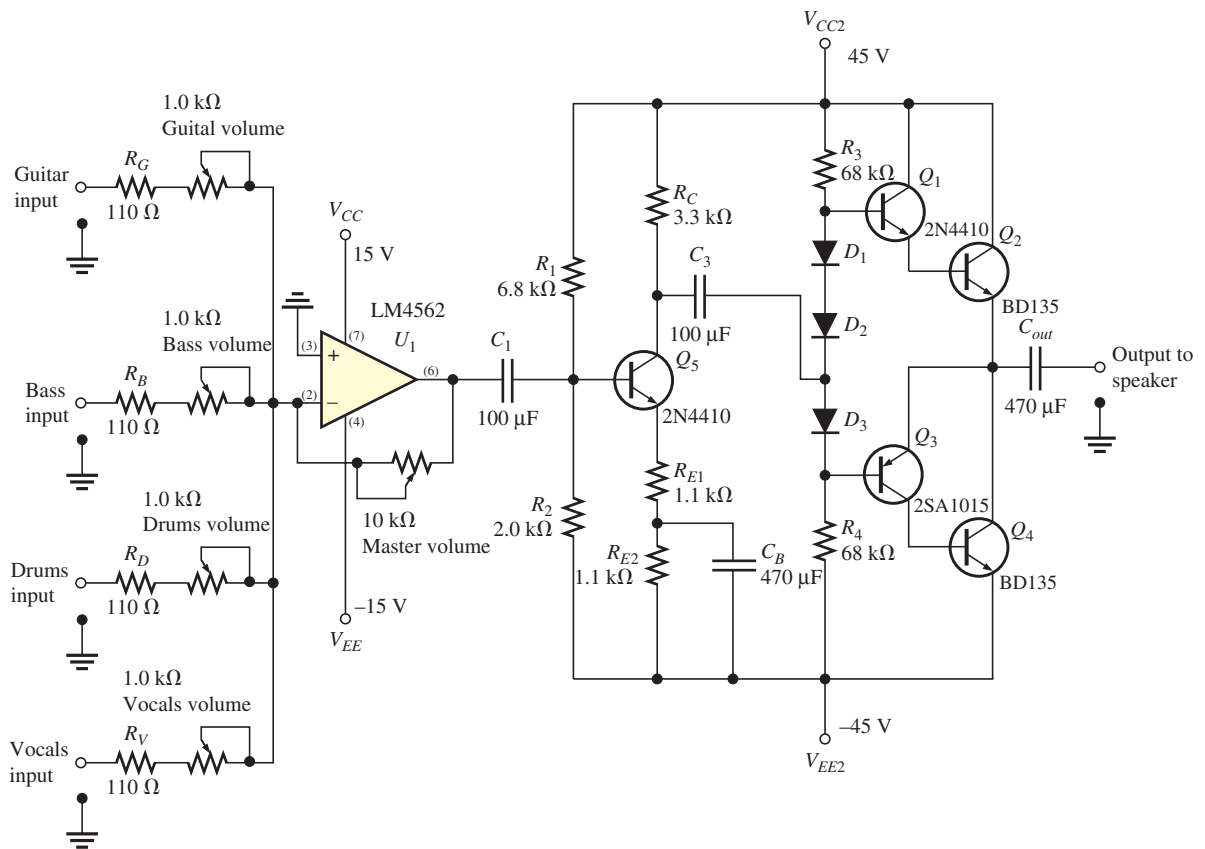

FIGURE SE8-7 Schematic for a 25 W four-channel mixer/amplifier.
Refer to the circuit schematic shown in Figure SE8-7. In this circuit an op-amp is being used as both a summing amplifier and a preamp. First note the potentiometers and fixed resistors on each input. The potentiometers control the gain of the input signal from each microphone. As the resistance of the potentiometer decreases, the gain of that input signal increases. The fixed-value resistors are required because, if the potentiometer is lowered to $0\ \Omega$, the op-amp will immediately saturate, regardless of the setting of the master volume control.
4. Refer to Figure SE8-7. What is the purpose of the fixed resistors in each channel of the mixer?